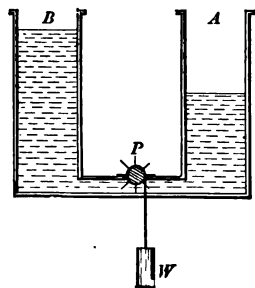

FIG. 223.—Water at different levels.
**262. Electric currents and water currents.** Although it must not be supposed that electricity is a material flowing through the circuit as water flows through a pipe, yet it will greatly help us to form a mental picture of the situation if we compare electric currents with water currents. In figure 223 we have two tall open vessels containing water. These are
The difference in level in *A* and *B*, in figure 223, represents the difference in the electrical condition of the two electrodes, copper and zinc. This is called the **difference of potential** between the positive and negative poles of the cell. The pump represents the chemical action of the acid on the zinc, which produces this difference of potential. Figure 223 is, then, analogous to the cell with its circuit open.